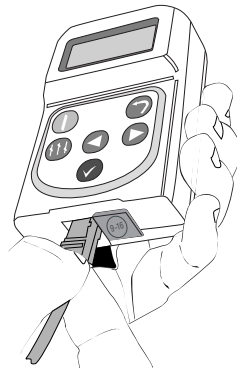

FIGURE 7
3. Attach the trial cable to the trial stimulator (see Figure 7).